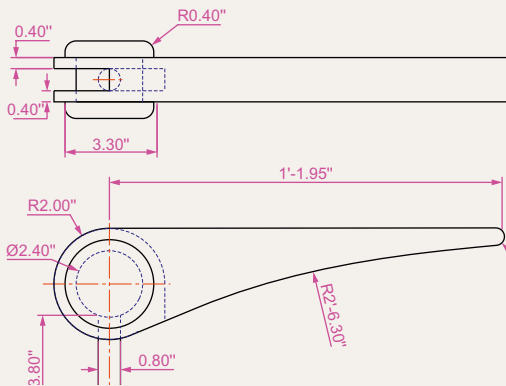
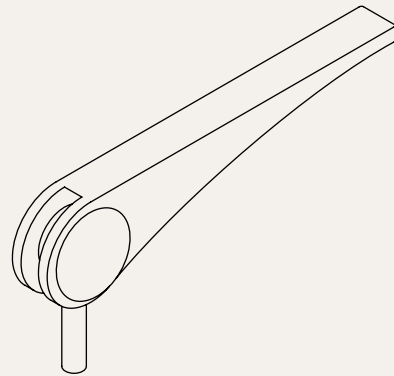

Fig. 13.18 Exercise 4 – orthographic projection
Fig. 13.19 Exercise 4
- A two-view orthographic projection of a rotatable lever from a machine is given in Fig. 13.18 together with an isometric drawing of the 3D model constructed to the details given in the drawing Fig. 13.19.